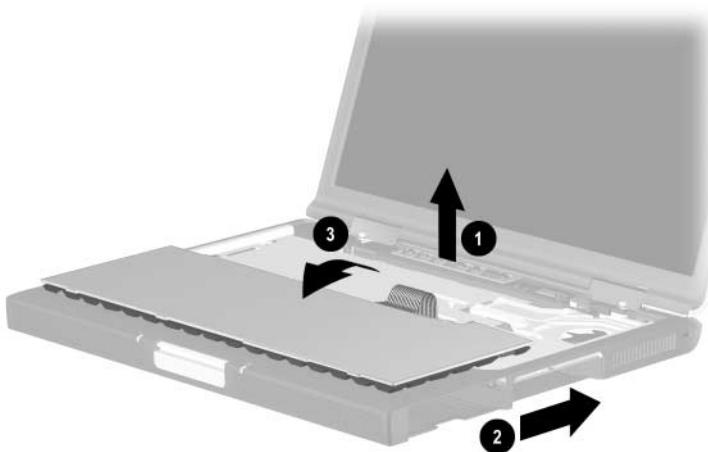

Figure 5-15. Releasing the Keyboard
3. Lift the back edge of the keyboard ① (Figure 5-15).
4. Slide the keyboard toward the back of the computer ②.
5. Lift the back edge of the keyboard and swing it forward ③ until it rests on the palm rest.